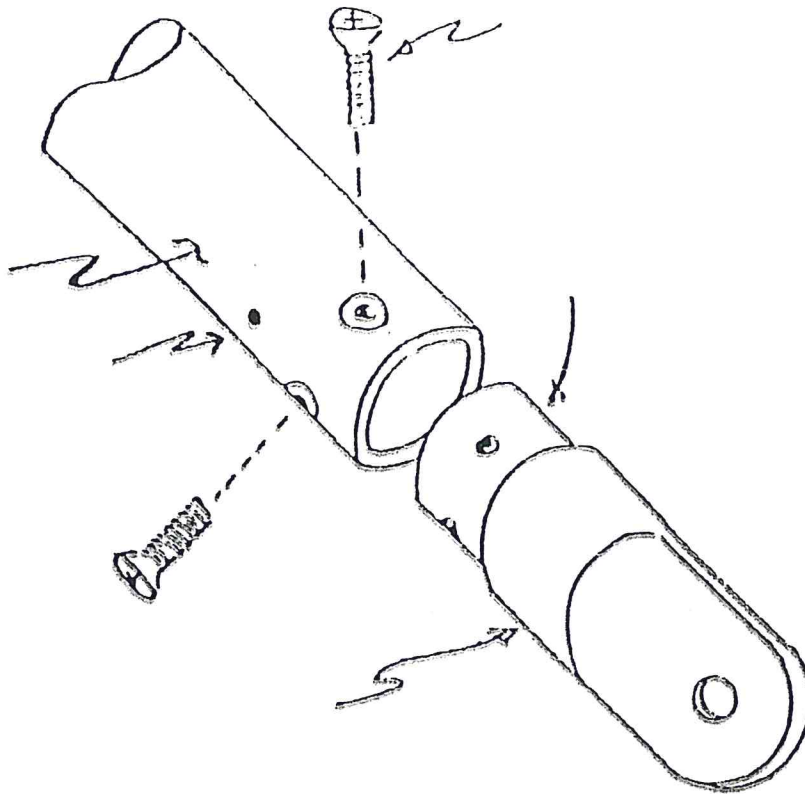

Fig. 2
- 9) Follow Figure 2 in permanently installing all pinned connections. Use a permanent thread locking compound on these fasteners (Loctite #262)